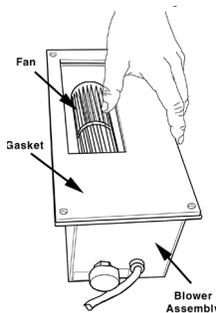
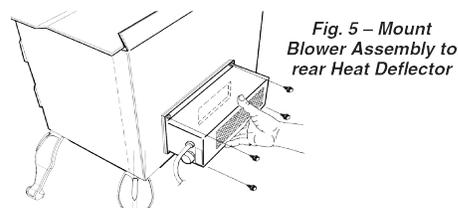

Fig. 4 – Optional Blower Assembly
Fig. 5 – Mount Blower Assembly to rear Heat Deflector
1. Attach blower assembly (fig.4) to back of rear deflector. (fig.5)